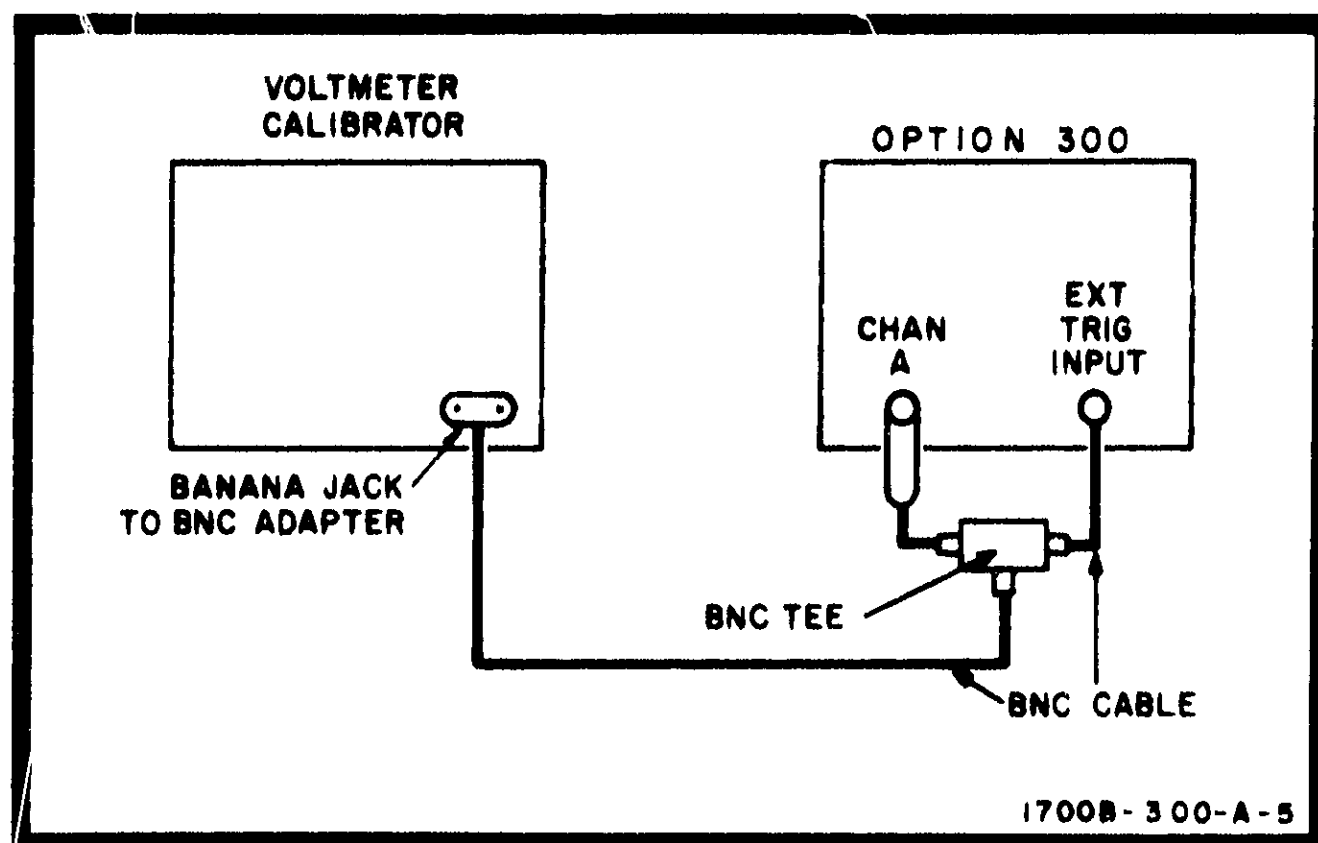

Figure 5-8. Trigger Level Range and Polarity Test Setup
- Connect instruments as shown in figure 5-8.